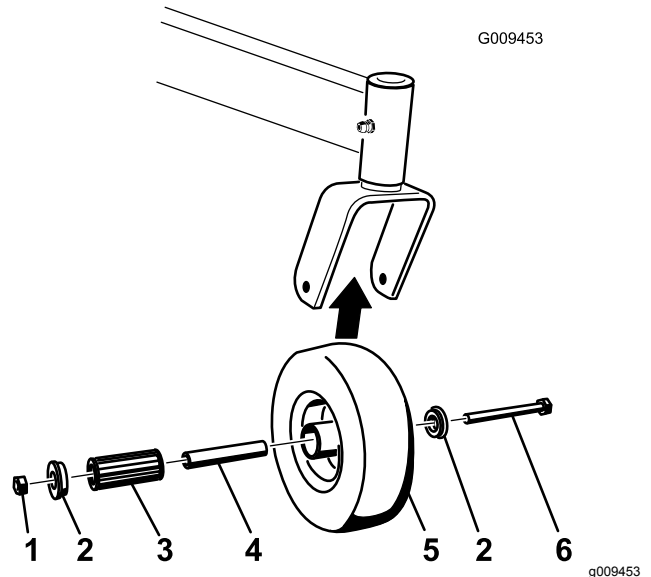

Figure 53
1. Remove the locknut and wheel bolt holding the caster wheel to the caster fork (Figure 53).
2. Remove 1 bushing, then pull the spanner bushing and roller bearing out of the wheel hub (Figure 53).
3. Remove the other bushing from the wheel hub and clean any grease and dirt from the wheel hub (Figure 53).
Note: Replace any damaged or worn parts (Figure 53).
5. Place 1 bushing into the wheel hub (Figure 53).
6. Grease the roller bearing and spanner bushing, and slide them into the wheel hub (Figure 53).
7. Place the second bushing into the wheel hub (Figure 53).
8. Install the caster wheel into the caster fork and secure it with the wheel bolt and locknut (Figure 53).
9. Tighten the locknut until the spanner bushing bottoms against the inside of the caster forks (Figure 53).